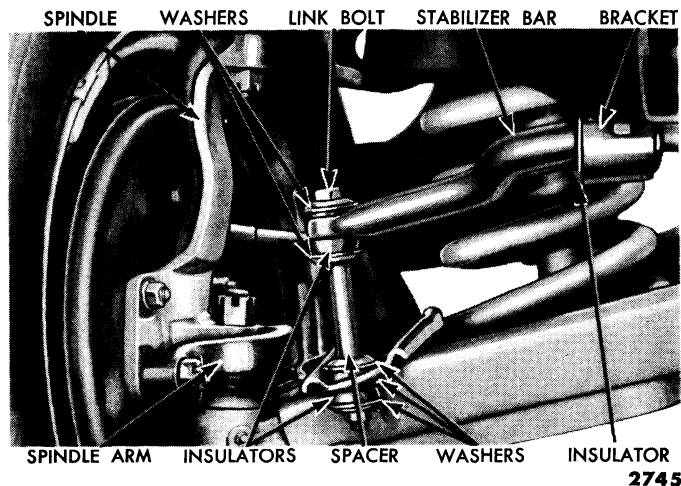

Fig. 14—Spindle and Stabilizer Installation
(3) **SPINDLE.** Place a jack under the suspension lower arm and raise the car. Remove the wheel and drum assembly. Remove the cotter pins and nuts from the spindle arm to spindle bolts, then remove the spindle arm (fig. 14). Remove the brake carrier plate, and
The stabilizer bar is held in place by two rubber insulators which are clamped to the frame side rails (fig. 14). The ends of the stabilizer bar are connected to both lower suspension arms by link bolts, spacers, washers, and rubber insulators.